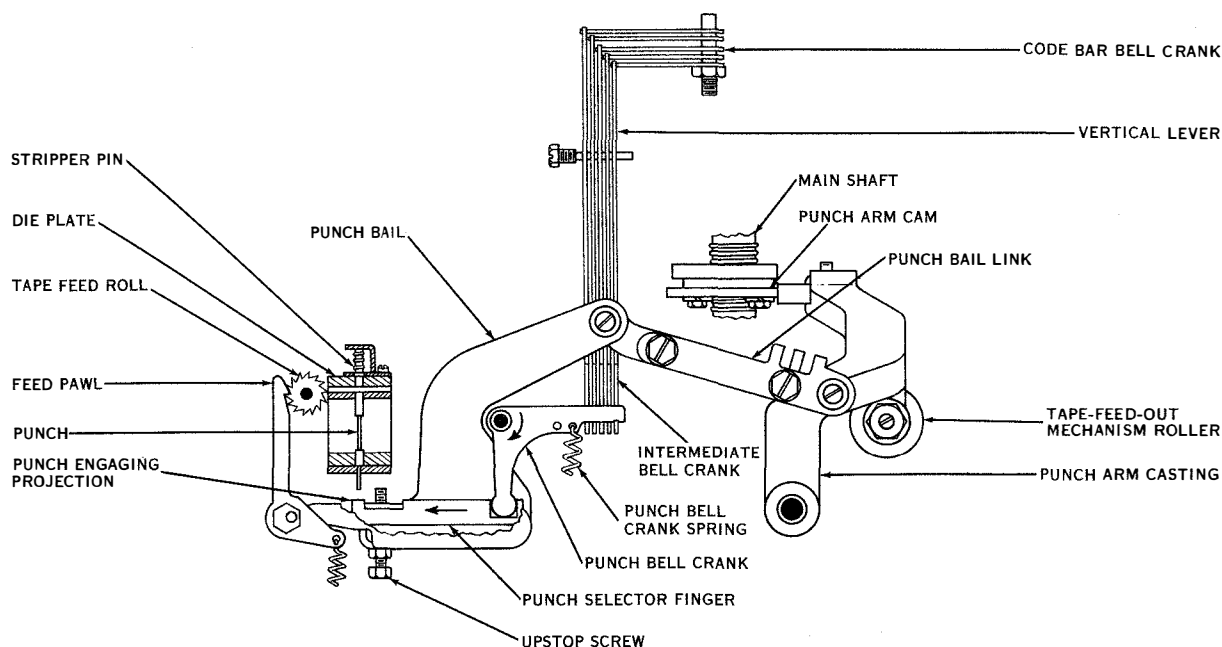

Figure 2-37. Perforating Mechanism
fingers is derived from the punch bell crank springs (see figure 2-37).
(c) The positioning of the punch selector fingers occurs early in the upward stroke of the main bail. The motion of the code bar locking lever is utilized to position the code bar bell cranks when the locking lever moves toward the code bars. If a code bar has been positioned to the right (marking), movement of the associated code bar bell crank will be blocked by the right end of the code bar as the locking lever moves toward the code bars. The punch selector finger remains in position to engage the punch as shown in figure 2-37. If the code bar has been positioned to the left (spacing), the code bar bell crank will be free to follow the code bar locking lever. The train of linkage between the code bar bell crank and the punch bell crank will be rotated in a clockwise direction, thus moving the punch selector finger to the left so its recess will be under the punch.
(10) SPACING MECHANISM.—The spacing mechanism consists of a feed roll with feed pins and teeth, feed pawl, tape tension lever, star wheel, and detent lever with roller (see figures 2-37 and 2-38).
The feed holes in the tape engage the pins on the feed roll. The tape is fed over the roll and under the tape tension lever which holds the tape in engagement with the feed pins. As the punch bail moves upward, the feed pawl is also moved upward and engages the next higher tooth on the feed roll. As the punch bail moves down, the feed pawl rotates the feed roll one tooth (figure 2-37). When the feed roll is advanced,